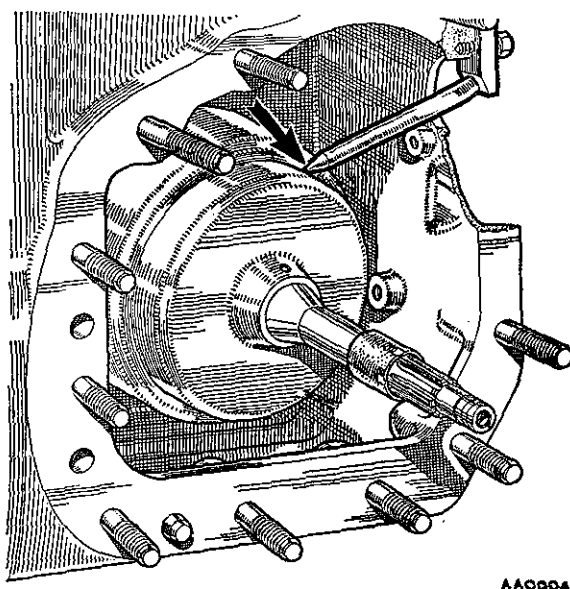

Fig. Fa.19
- (3) Unscrew and withdraw the gear selector rod and remove the front cover (the connecting bobbin is pressed into the later-type cover).
- (4) Remove the governor control assembly from the transmission case and fit Service tool 18G 1097 (see Fig. Fa.19).
- (5) Remove the securing nuts and pull the auxiliary pump and governor assembly from the transmission case.
- (28) Position the plastic sleeve over the rings on the forward clutch shaft and refit the forward clutch unit. Fit Service tool 18G 1097 to retain the correct position of the forward clutch unit (see Fig. Fa.19).
- (29) Fit new seals to the three valve block bobbins and fit them into their locations in the transmission casing.